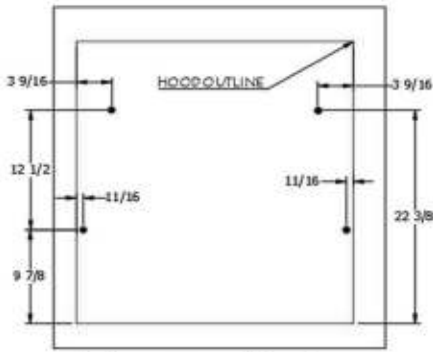

Figure 2.1
- Mark holes if using frame mounting holes (Figure 2.1). Place unit on mounting surface. The Hood is secured to the wall by means of high-tensile strength 1/4"-20 x 1" lag eyebolt, using supplied 1/8" wire rope (Figure 2.2). Disconnect wire rope from D-ring, pass wire rope through eyebolt. Ensure that the wire rope is loose and unobstructed. Reconnect wire rope to D-ring. Add optional frame mounting: Bolt (Figure 2.3), Screw (Figure 2.4). Place back panel, then install side panels with supplied screws. (Figure